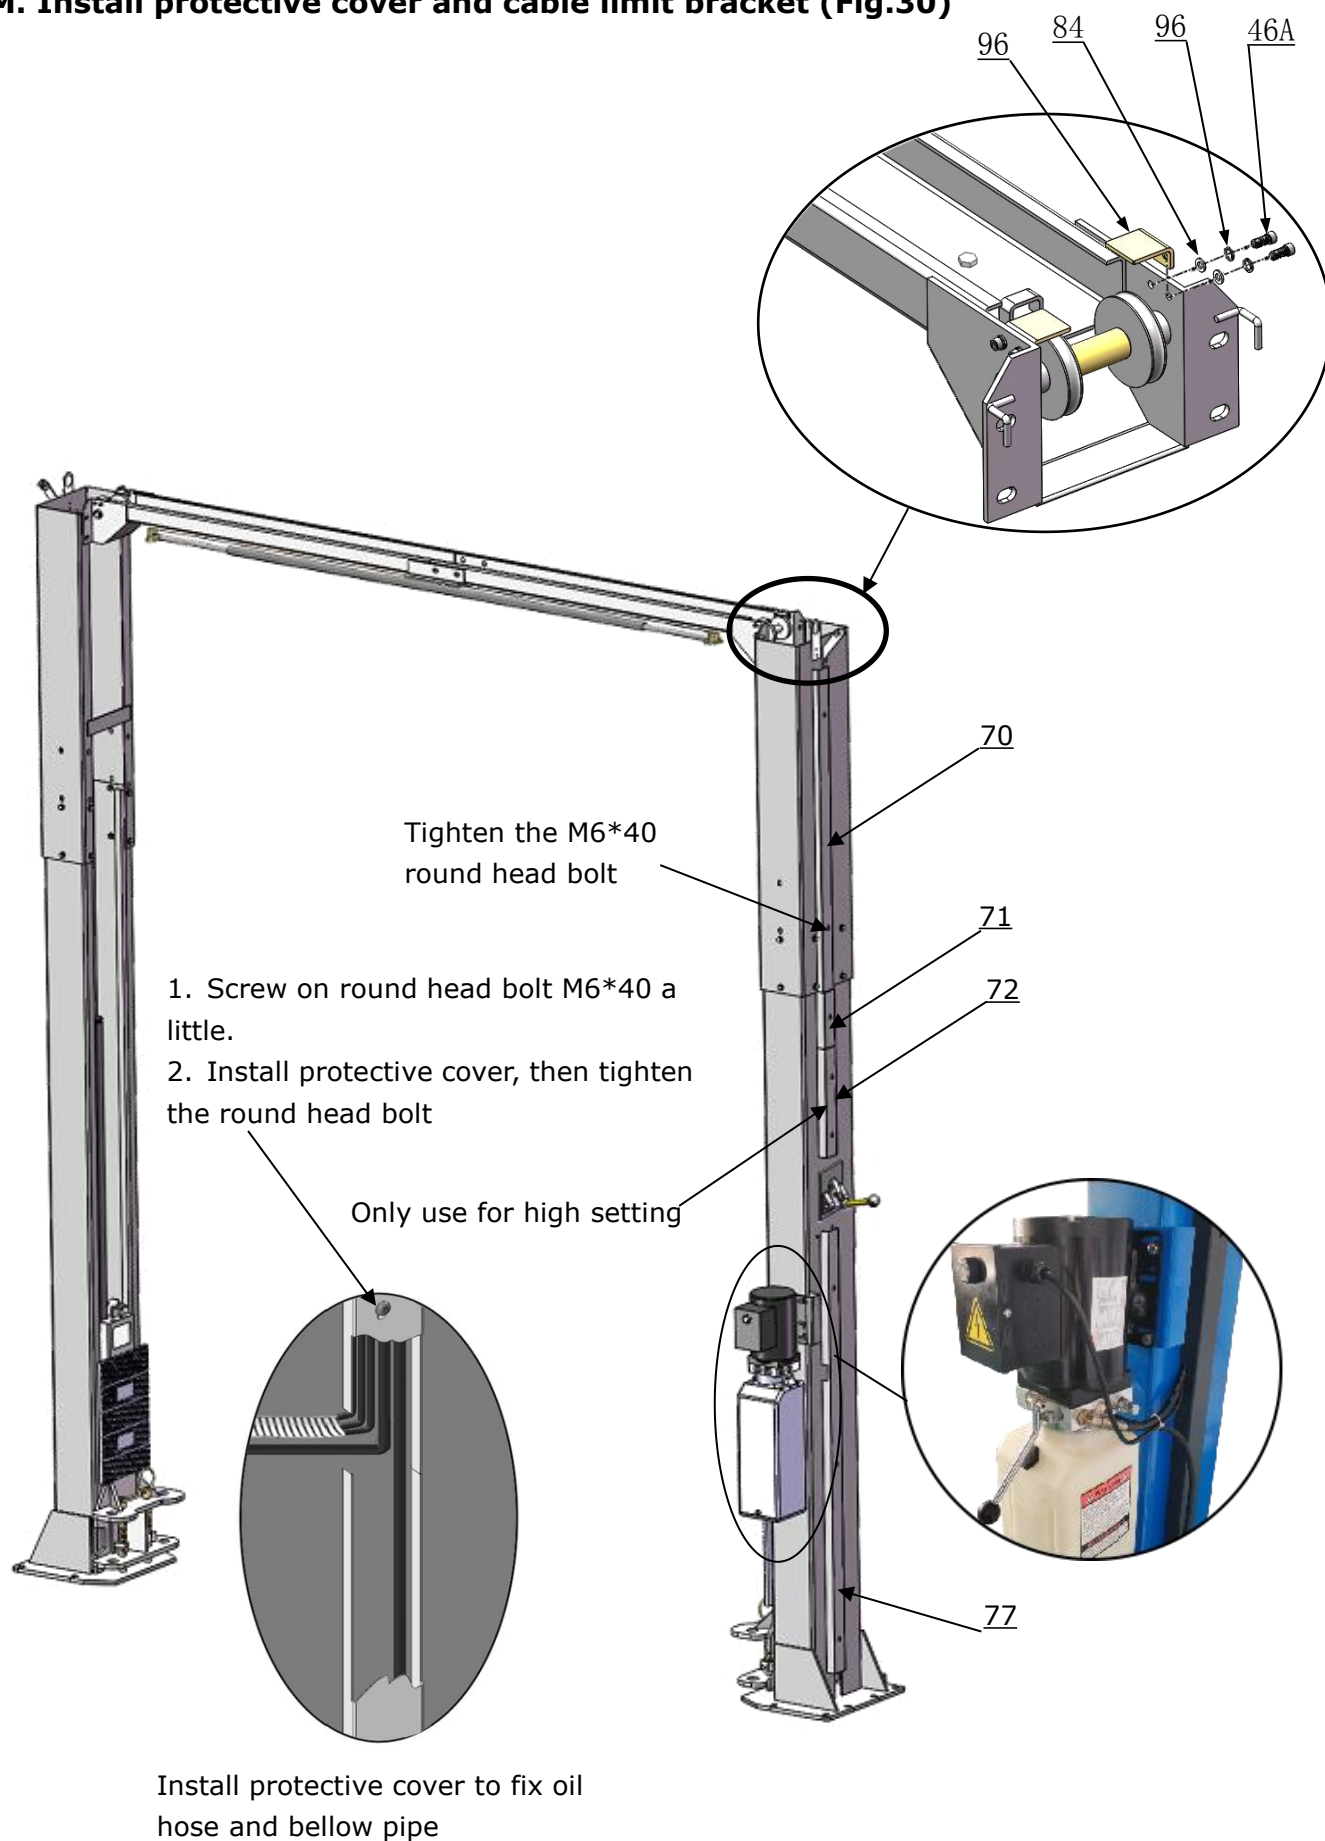

Fig. 30
M. Install protective cover and cable limit bracket (Fig.30)